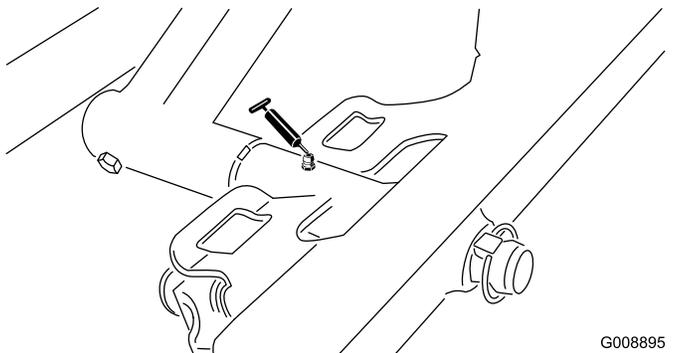

Figure 29
- Front cutting-unit pivot (Figure 29)